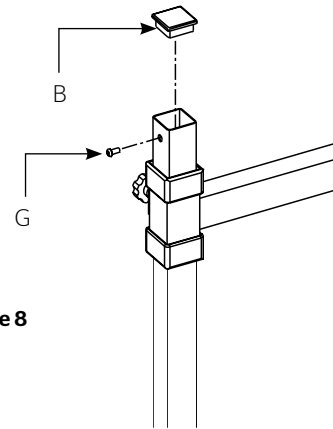

Figure 8
12. Install tube enclosures. See Figure 8.